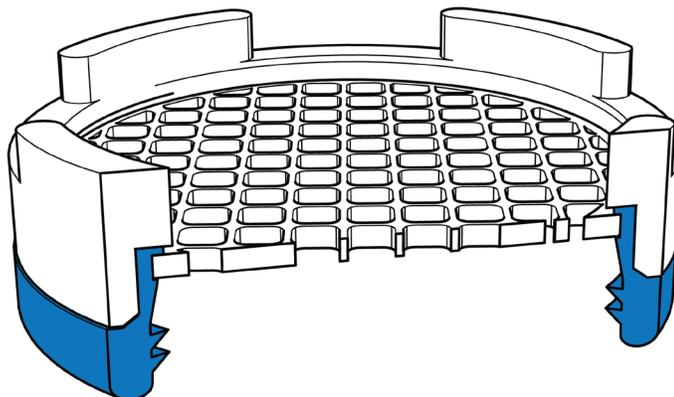
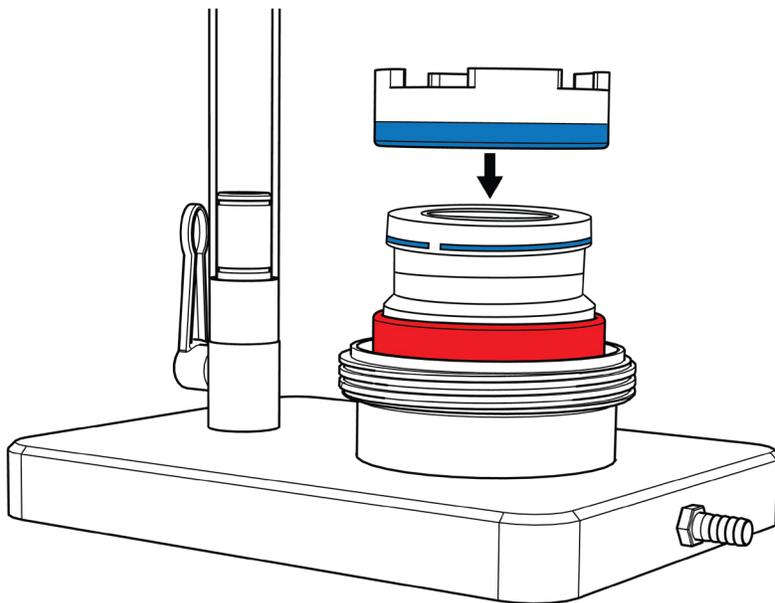

Figure 14 Mesh, gasket, and crown assembled
Figure 15 Press onto sample ring in KSAT
9. Press the assemble mesh or porous plate, gasket, and crown (Figure 14) onto the sample ring in the KSAT (Figure 15).